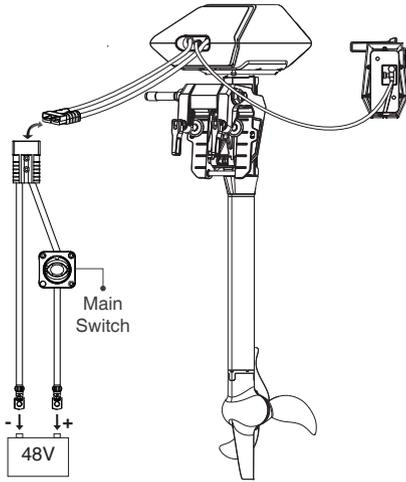

Figure 6-3
Step2: Connect NAVY outboard and Remote Control with a communication cable. Please refer to Figure 6-3.